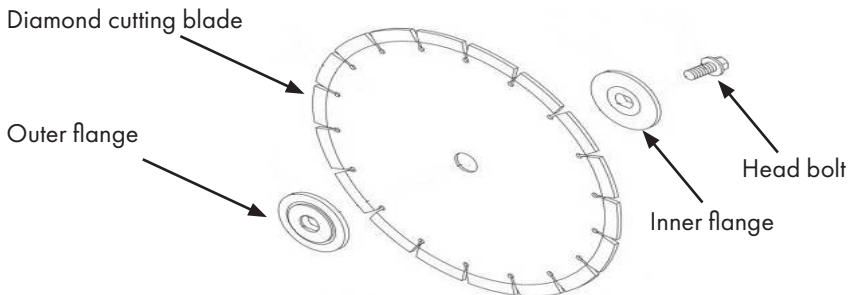

Figure 3
- Insert the diamond blade as shown in Figures 3, 4 and 5. Tighten the screw using the wrench provided.